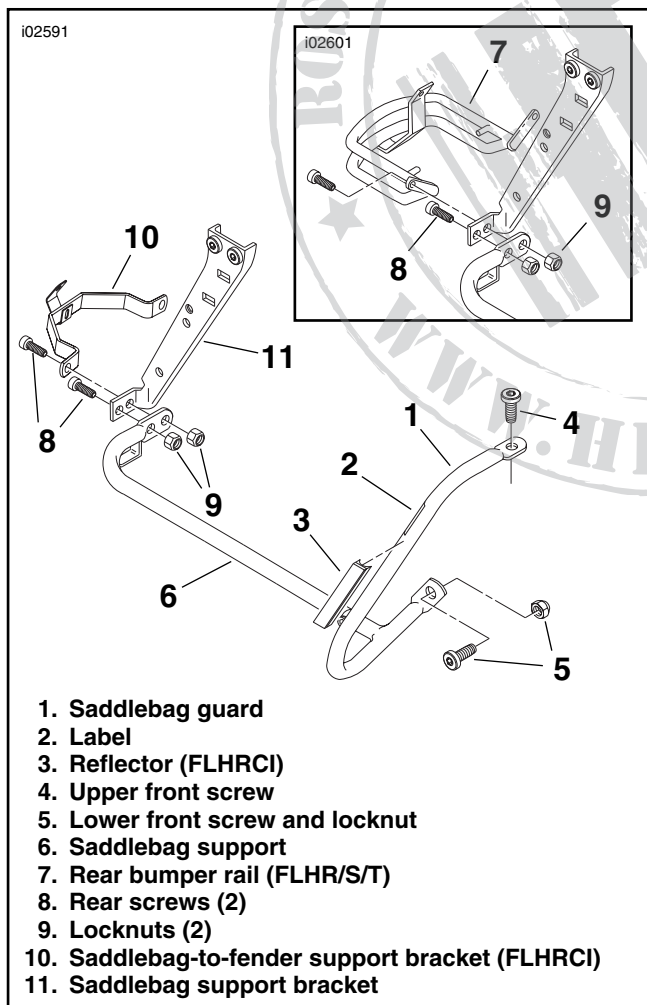

Figure 1. Existing Saddlebag Guard Hardware
2. See Figure 1. If the label (2) is attached to the side of the saddlebag guard (1) as shown, remove the label from the guard.
3. **For Kit 91265-98A only:** Remove the reflector (3) from the saddlebag guard (1).
4. **For ALL Kits:** Loosen, but do not remove, the upper TORX® head screw (4), and the lower TORX head screw and locknut (5) at the front of the guard.
5. Remove and discard the two screws (8) and locknuts (9) fastening the rear of the saddlebag support (6) and rear bumper rail (7) or saddlebag-to-fender support bracket (10) to the saddlebag support bracket (11).